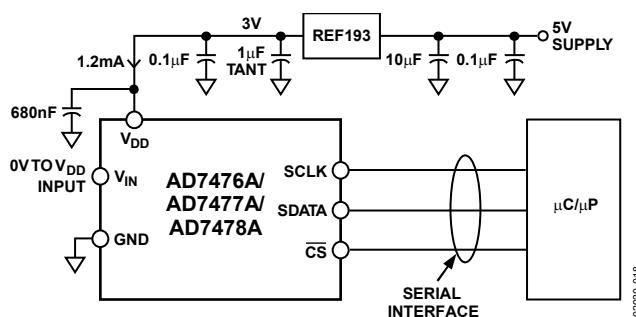

Figure 18. REF193 as Power Supply to AD7476A/AD7477A/AD7478A
Figure 18 shows a typical connection diagram for the **AD7476A**/
**AD7477A**/**AD7478A**.  $V_{REF}$  is taken internally from  $V_{DD}$  and, as such,  $V_{DD}$  should be well decoupled. This provides an analog input range of 0 V to  $V_{DD}$ . The conversion result is output in a 16-bit word with four leading zeros followed by the MSB of the 12-bit, 10-bit, or 8-bit result. The 10-bit result from the **AD7477A** is followed by two trailing zeros, and the 8-bit result from the **AD7478A** is followed by four trailing zeros. Alternatively, because the supply current required by the **AD7476A**/**AD7477A**/**AD7478A** is so low, a precision reference can be used as the supply source to the **AD7476A**/**AD7477A**/**AD7478A**. A **REF193**/**REF195** voltage reference (**REF193** for 3 V or **REF195** for 5 V) can be used to supply the required voltage to the ADC (see Figure 18). This configuration is especially useful if the power supply is quite noisy, or if the system supply voltages are at some value other than 5 V or 3 V (for example, 15 V).